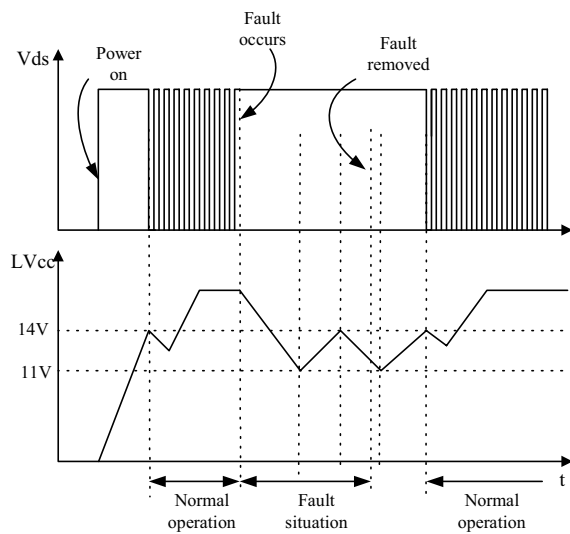

Figure 12. Auto Restart Protection Waveforms
-Auto-restart mode protection: Once the fault condition is detected, switching is terminated and the MOSFETs remain off. This causes LVcc to fall. When LVcc falls down to the under voltage lockout (UVLO) stop voltage of 11V, the protection is reset and FSF-Series consumes only startup current. Then, the LVcc capacitor is charged up, since the current supplied through the startup resistor is larger than the current that FPS consumes. When LVcc reaches the start voltage of 14V, the FSF-Series resumes its normal operation. If the fault condition is not removed, the MOSFETs remain off and LVcc drops to stop voltage again. In this manner, the auto-restart can alternately enable and disable the switching of the power MOSFETs until the fault condition is eliminated (see Figure 12).